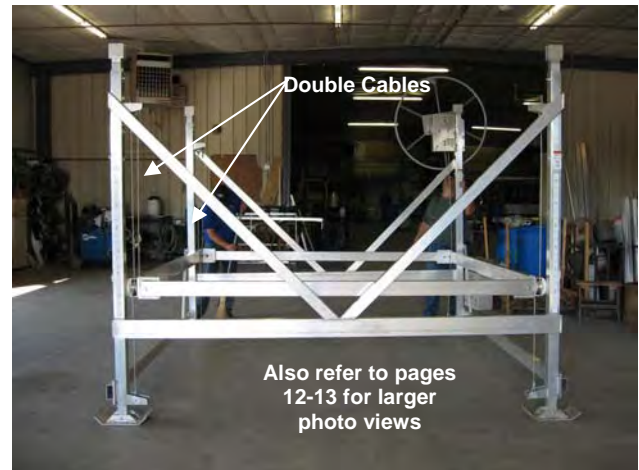

FIG. 17
1. Go to the end of the lift opposite the winch. See Fig 17. Also refer to pages 12 & 13 for larger photo views.